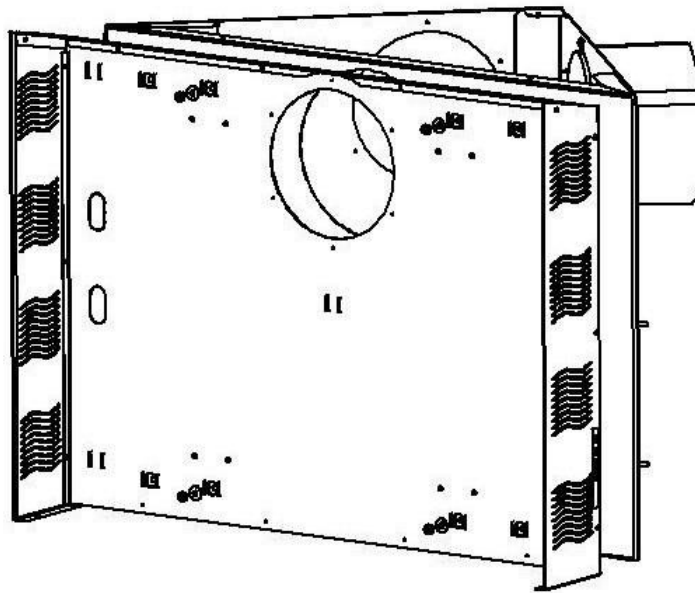

Fig. 5
STEP 5: Attach the Top, Left and Right decorative panels to the fireplace mounting plate. These items came with your Fireplace unit. Then attach the mounting plate (with the three decorative panels attached as shown) to the corner wall mount unit and fasten in place with 4 lock nuts and washers. See Fig. 5.